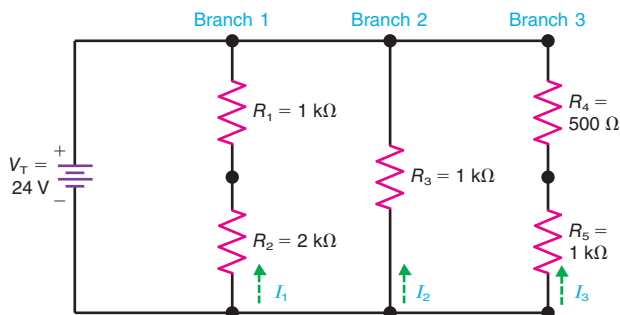

Figure 7-21
7.8 In Fig. 7-21, solve for the following: